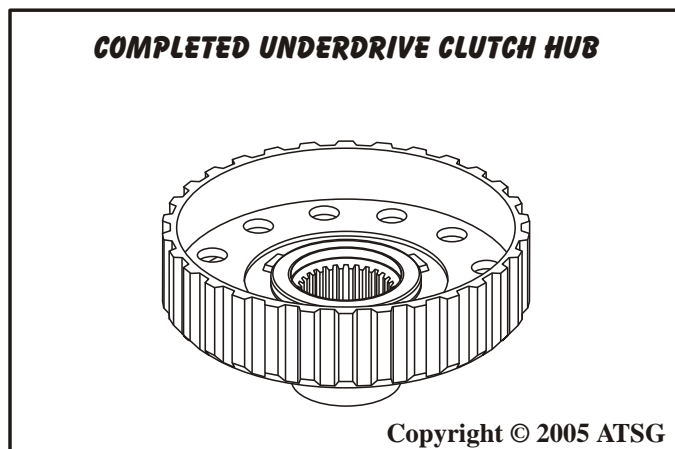

Figure 122
3. Set the completed underdrive clutch hub aside for the final assembly process, as shown in Figure 122.